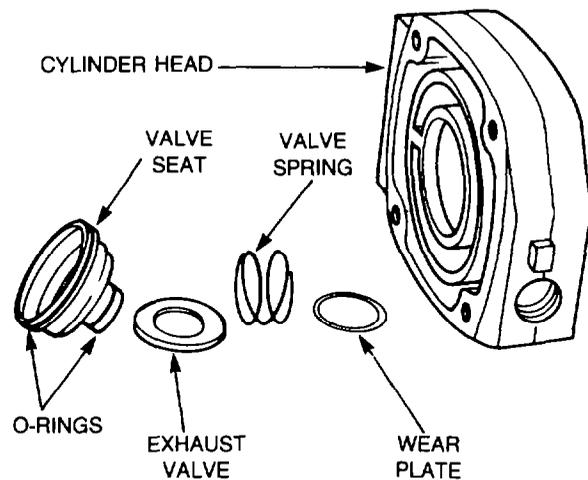

Figure 234 — Exhaust Valve — Exploded View
- j. Press the exhaust valve assembly from the bottom side of the cylinder head, then remove and discard the O-rings. Remove the exhaust valve from the exhaust valve seat. Remove the wear plate and spring from the cylinder head (see Fig. 234).